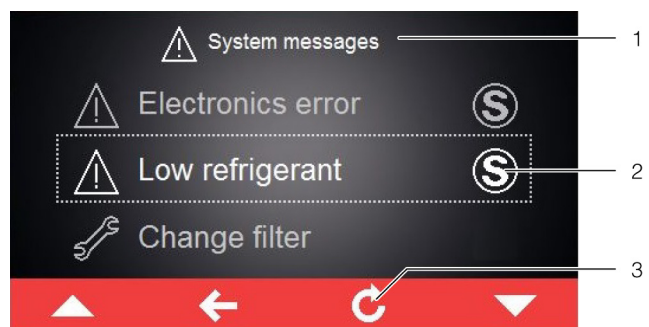

Fig. 43: Screen showing error messages
If an error message applies that cannot be resolved by the operator himself and which is not reset automatically, the "Service" symbol will appear after the error message and in the control bar next to the symbol for system messages (fig. 43, item 2).